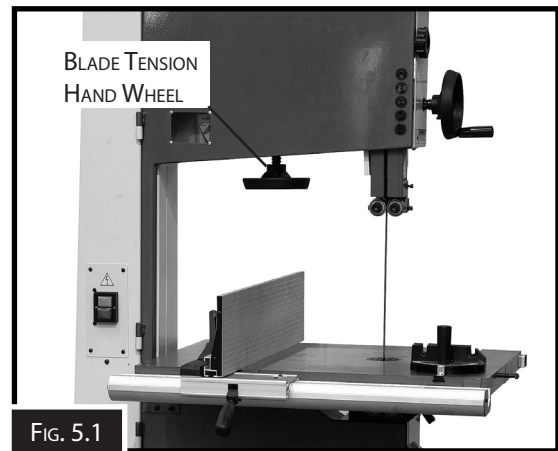

FIG. 5.1
**Blade Tension Hand Wheel:** Adjusts the tension on the blade. (Fig. 5.1)